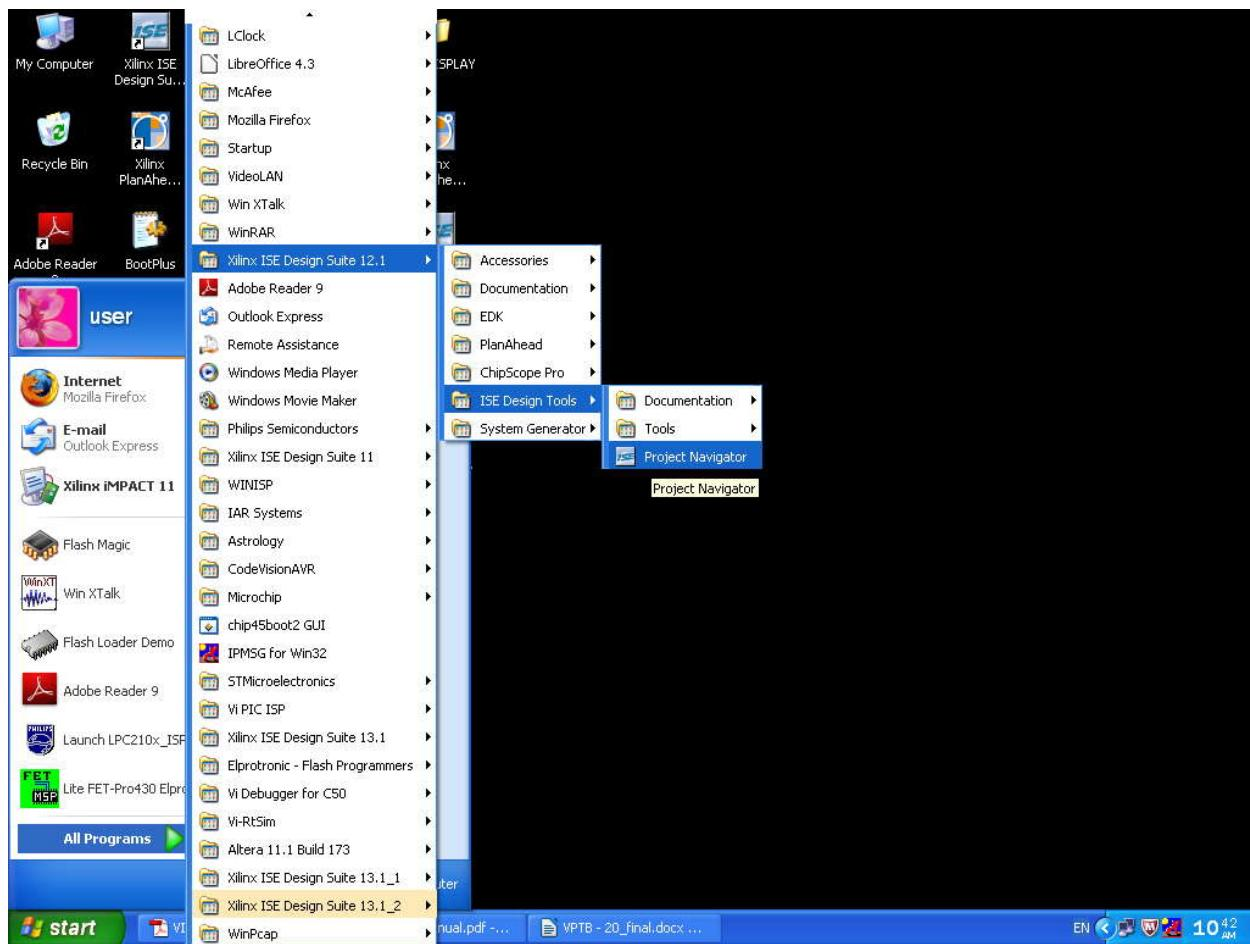

Figure-1
1. After installing Xilinx software, go to **Start Menu → Programs → Xilinx ISE 12.1→ ISE Design tools→Project Navigator** (refer **Figure-1**).